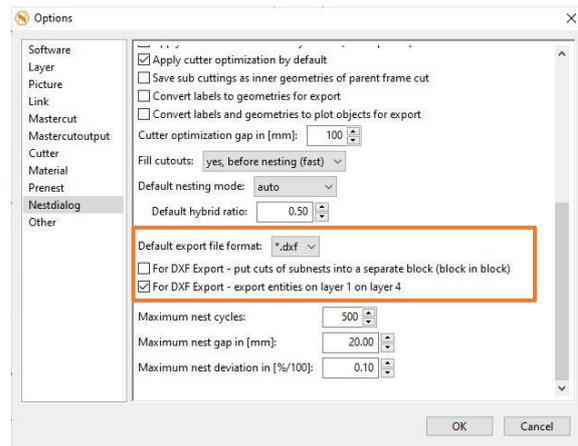

Figure 128
- c. Enable **[For DXF Export – export objects on layer 1 on layer 4]** (Figure 128).